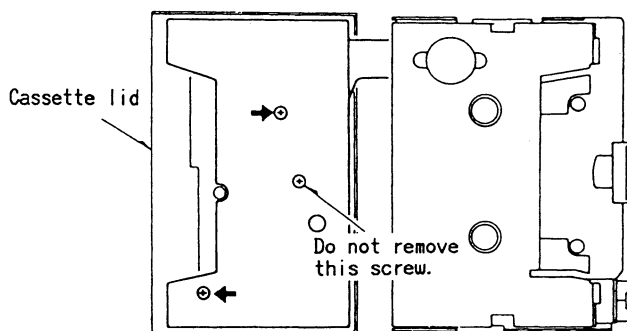

Fig. 5
- 1) Remove 2 screws. (See Fig. 5)